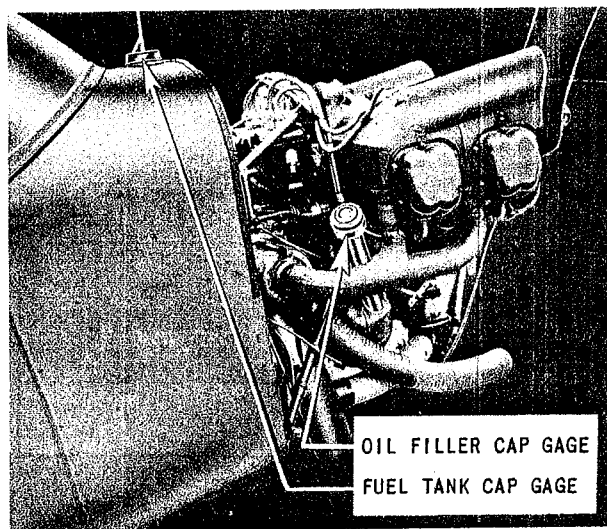

Figure 5—Engine of the Model L-4A, L-4B, and L-4H
level. The engine lubricating oil is admitted to the oil sump through the oil filler neck on the right side of the engine. (See figure 5.) The oil gage is part of the cap assembly. The fuel tank, with a capacity of 12 U. S. gallons, is located in the fuselage between the instrument panel and the fire wall. The fuel is admitted to the tank through the filler neck which penetrates the fuselage cowl forward of the windshield. The fuel gage is part of the tank cap assembly. It is not calibrated but shows the proportion of fuel remaining in the tank by the length of rod which extends beyond the cap. A full tank is represented by approximately 11 inches of visible rod.
i. LUBRICATING SYSTEM. (See figures 5, 8, 9, 10, and 22.)—The lubrication of the power plant is internal, the only external features are the oil pressure and oil-temperature gages, oil filler neck and cap, and a 1 U. S. gallon oil tank or sump.